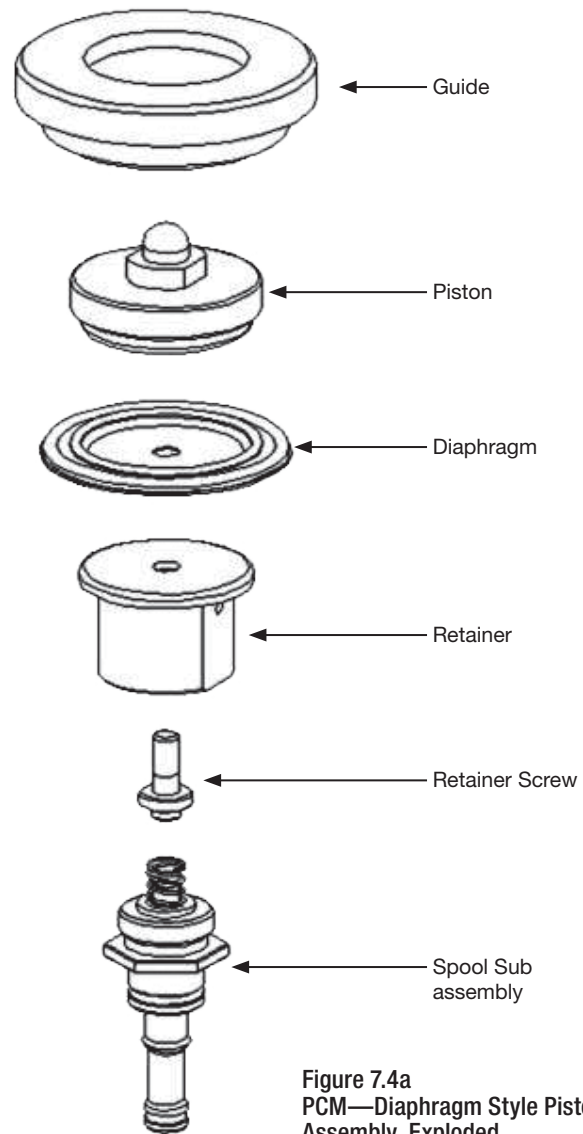

Figure 7.4a
1. Lay out the parts in sequence as shown in Figure 7.4a, on a clean and well-lit work area.